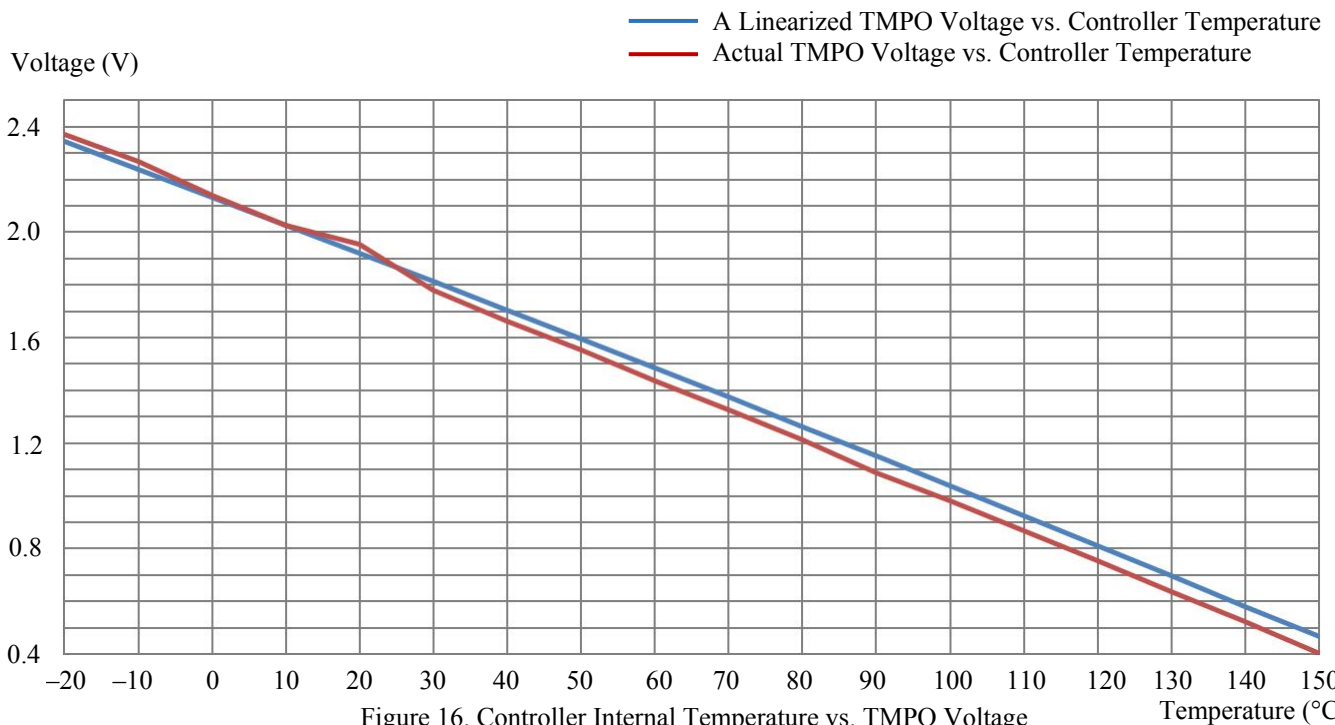

Figure 16. Controller Internal Temperature vs. TMPO Voltage
Within the most commonly used temperature range of between 0°C to 100°C , the maximum error occurs at about 1.5V, at which the temperature error between the calculated data by using the formula (1) and the approximated data obtained by using the linear equation (2) is about 0.4°C , with the linear data being a little lower. The curves of the 2 sets of the data are plotted in Figure 16.
The schematic is shown in Figure 16, where Power Supply 1 is the power supply for the laser driver, Power Supply 2 is for increasing the laser driver's maximum output voltage.